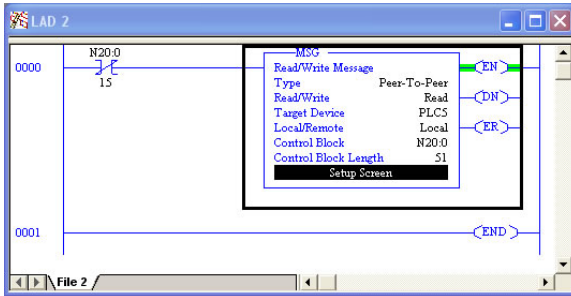

Figure 106: Completed PLC Program
7) The program is now complete. Refer to Figure 106.